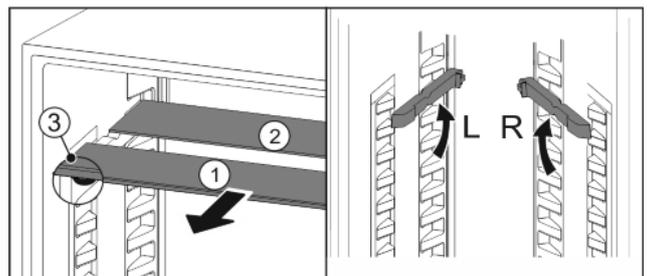

Fig. 23
- ▶ Pull the glass panels out Fig. 23 (1) from the front, one at a time.
- ▷ Glass panel *Fig. 23 (1)* with pull-out stoppers is at the front.
- ▷ Stoppers are pointing down *Fig. 23 (3)*.